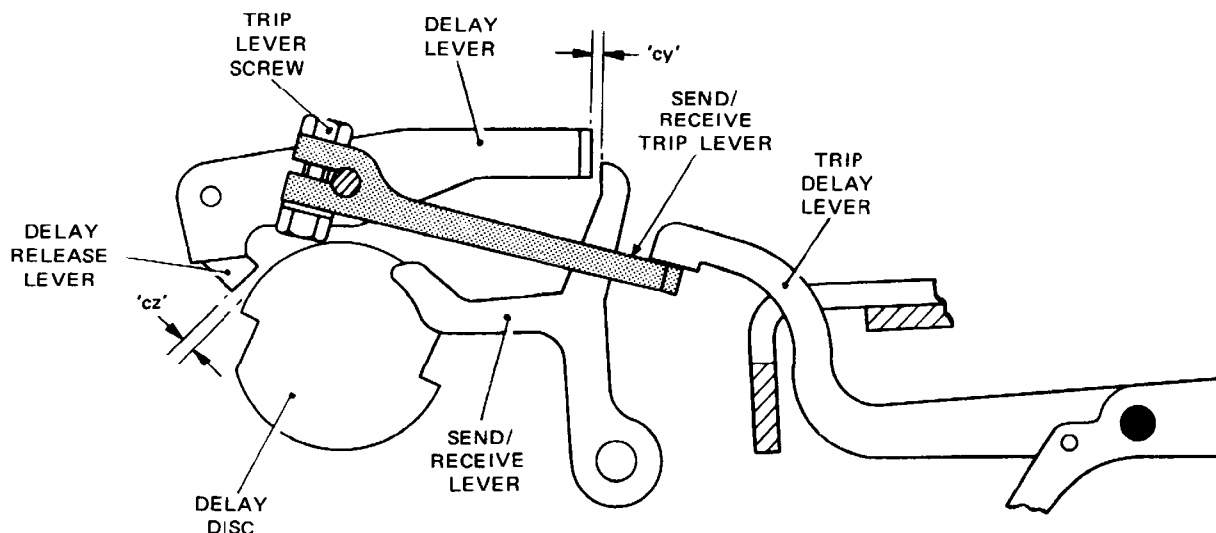

Fig. 4.110 SEND/RECEIVE DELAY MECHANISM
- 120.1 Load a length of tape into the tape reader, depress the TAPE TRANSMITTER ON key and turn the machine by hand until the trip delay lever (located on the tape reader), Fig. 4.110, has moved to its maximum counter-clockwise position. Check that the clearance (dimension 'cy') between the delay lever and the send/receive lever (located on the transmitter unit) is 0.002–0.006 inch.